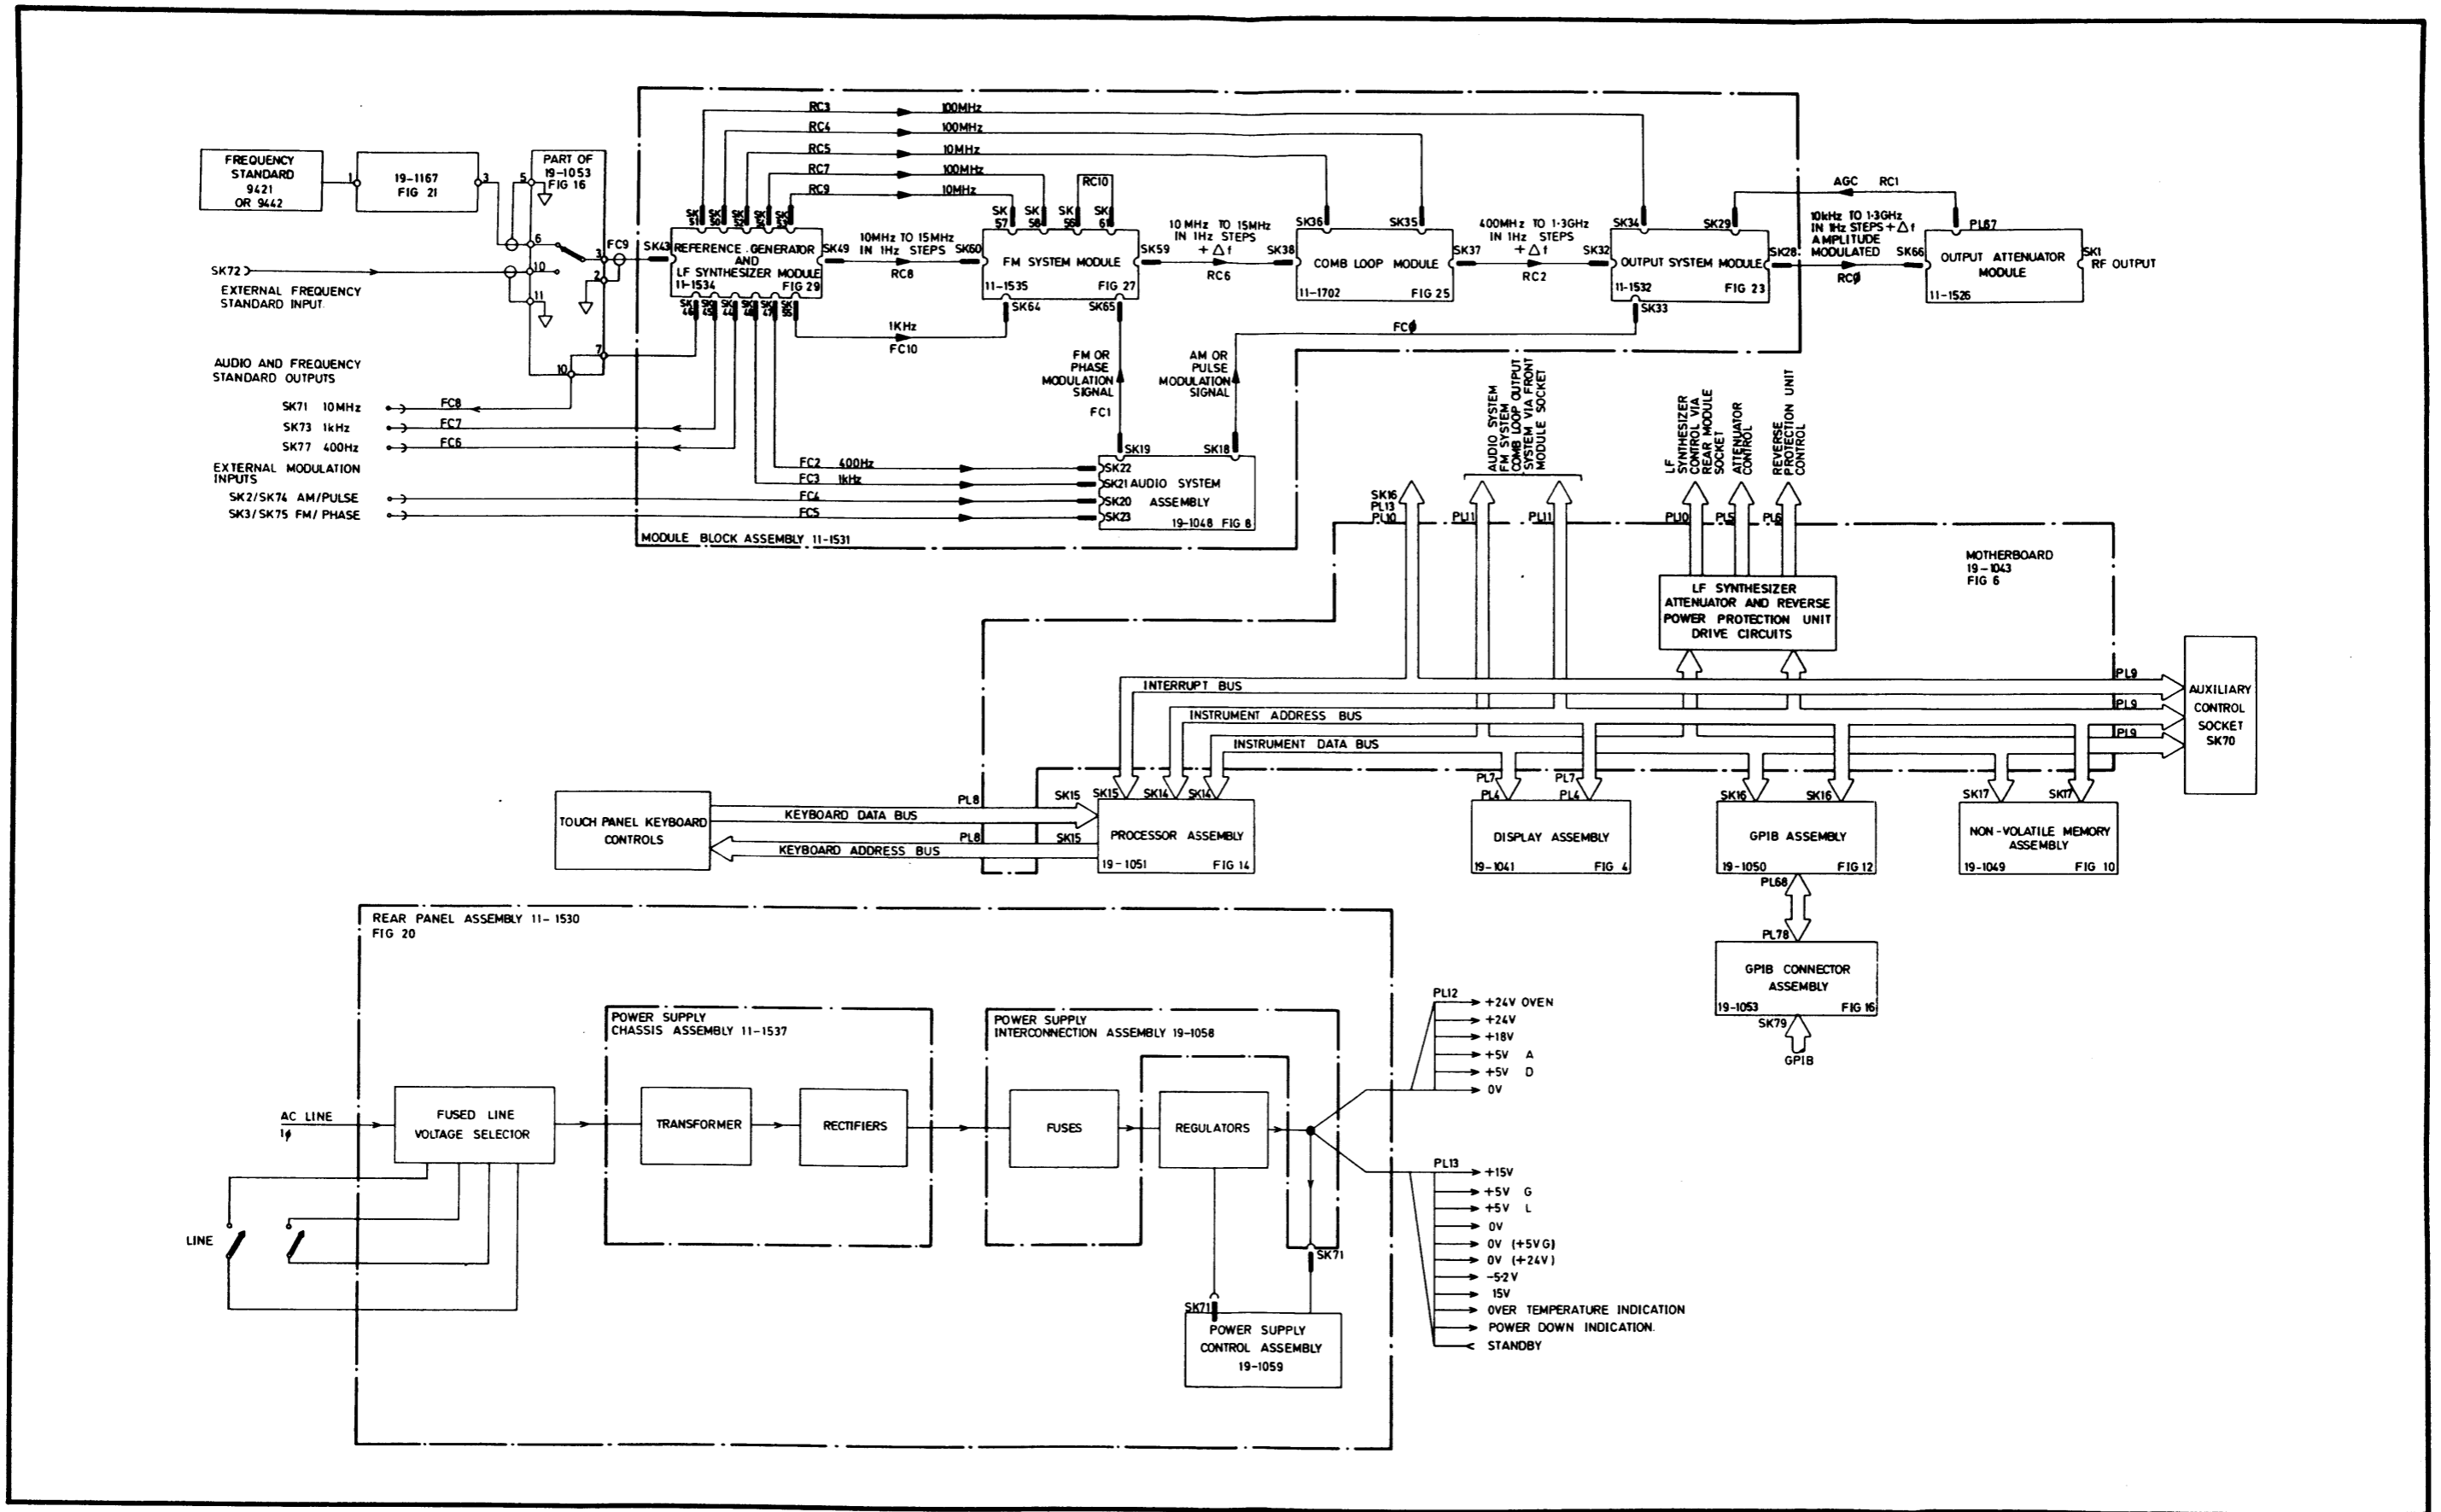

Figure 6.1 Block Diagram
6.1.1 This section is written in two parts. Paragraph 6.4 covers the operating principles of the 9087 in general terms, with reference to the block diagram, Fig. 6.1. Paragraph 6.5 describes the operation of the circuits in greater detail, with reference to the circuit diagrams given in Section 8.
6.4.1.1 It will be seen from the block diagram, Fig. 6.1, that the circuits of the 9087 can be grouped into three functional systems as follows: